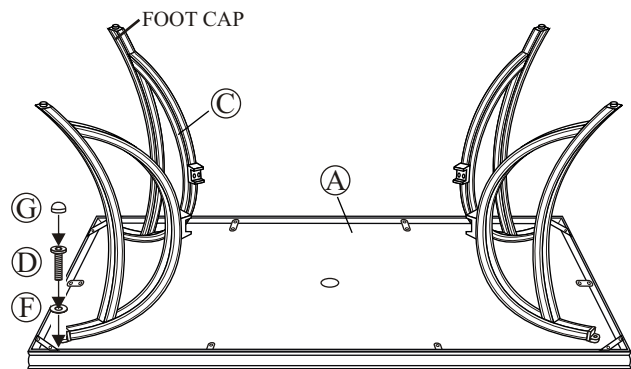

Fig.1
Step 2: Place the table top upside down on a flat, non-abrasive surface. Attach a table leg to the table top by using the bolt and washer as shown in **Fig.1**. Place the leg beneath the table top corner bracket and into the pre-drilled hole in the table leg. **Hand tighten only 3-4 revolutions only. Do not tighten completely.** Repeat for the other three legs.
Step 2: Working from behind the chair, have another person stand in front of the chair and position the sling seat frame in between the arms of the seat base as shown in **Fig.1** so that the holes on both sides of the upper portion of the seat frame back align with the fixed nut holes in the seat base.